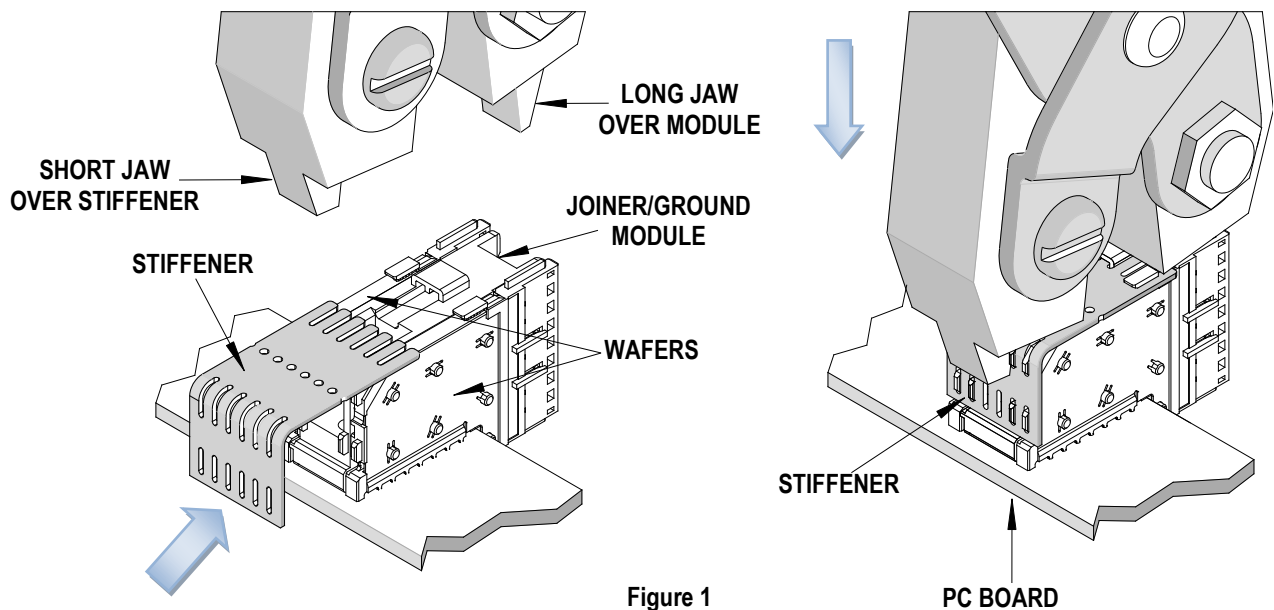

Figure 1
3. Position the Insertion Tool over the module and stiffener assembly with the long jaw of the tool over the module and the short jaw over the stiffener. See Figure 1.
3. Position the Insertion Tool over the module and stiffener assembly with the long jaw of the tool against the back of the stiffener and the short jaw against the top portion of the module where it attaches to the stiffener. See Figure 1.